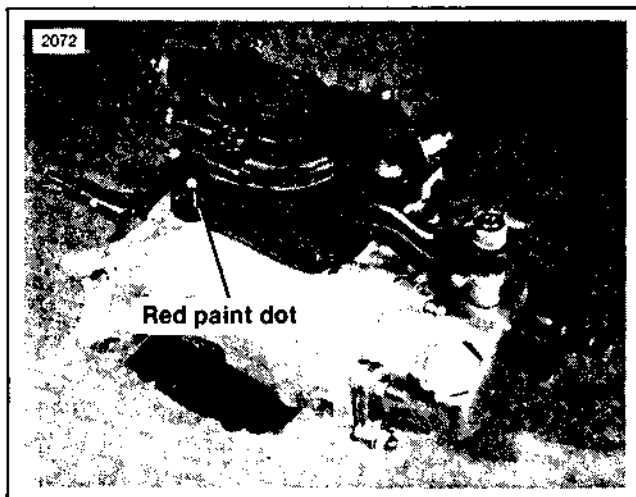

Figure 1. Checking Transmission for 055
1. All Code 054 replacement transmissions shipped from the factory after January 18, 1982 have already been inspected and serviced for 055. Examine the clutch release arm (see Figure 1). If a red paint mark is present on the end of the arm as shown, no further inspection is required. Submit a Code 055 Dealer Service Card marked "N" in the Code Box and "O" in the Quantity Box.